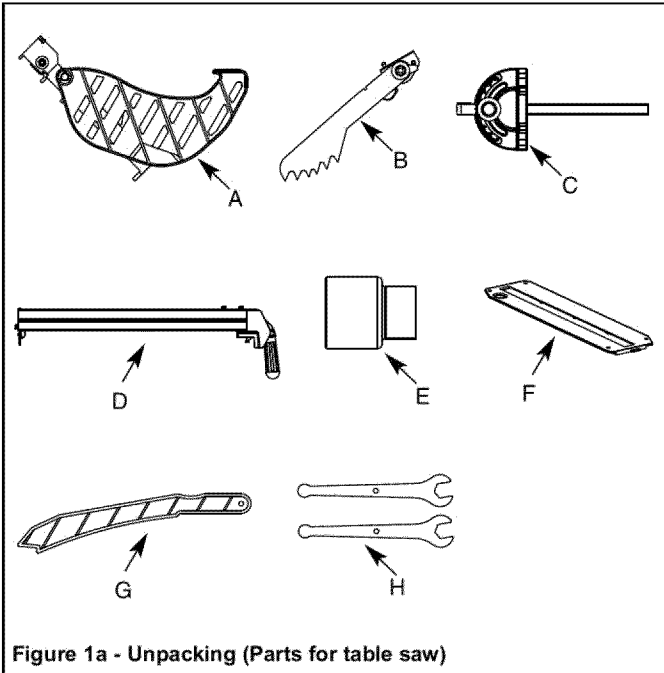

Figure 1a - Unpacking (Parts for table saw)
- Lay out the parts and check them against the parts as shown illustrations Fig. 1a-1b.